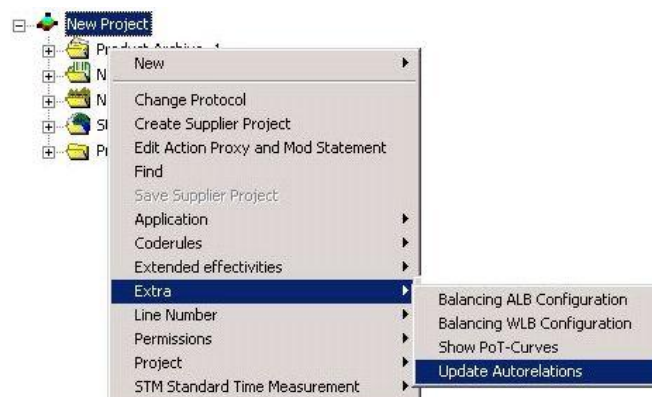

Figure 193: Starting the Update on the Project Level
- 1) Click **Update Autorelations** item to start the update. *Please refer to the Figure 193.*